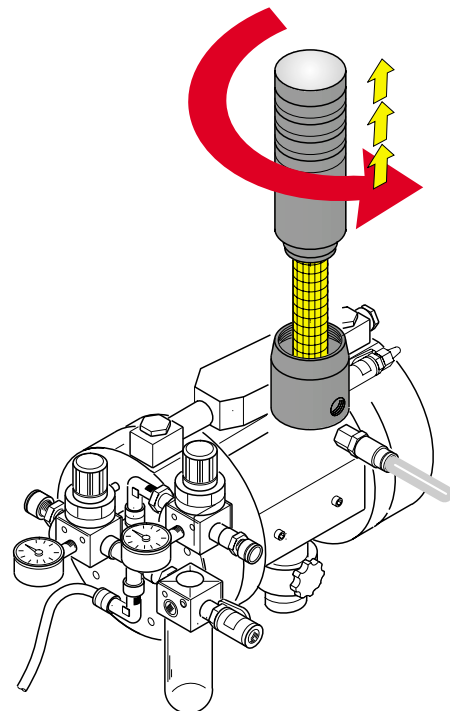

Fig.46
7) Remove the upper filter casing (fig. 46) and proceed with internal cleaning of the filter unit using a solvent.